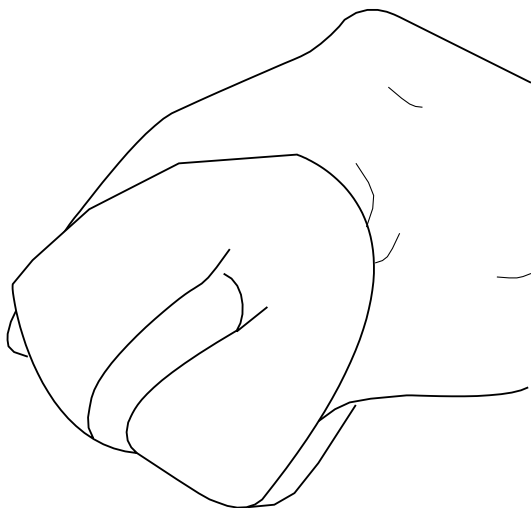

Figure 34
11. Squeeze the filters to remove any excess oil (see *Figure 34*).